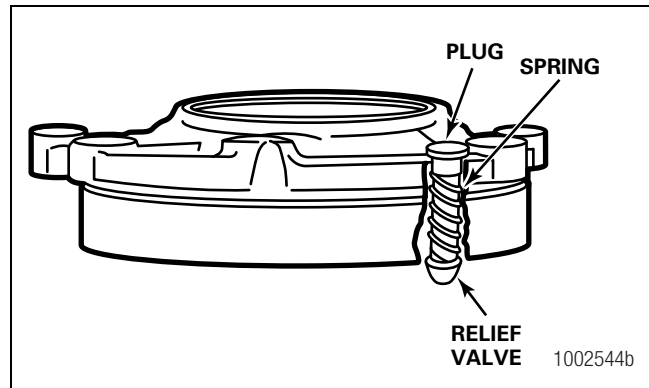

Figure 5.72
- D. If removed, install the pressure relief valve assembly into the input bearing cage. Install the relief valve, spring and plug into the bore. Tighten the plug to 20-40 lb-ft (27-54 N•m). Figure 5.72.